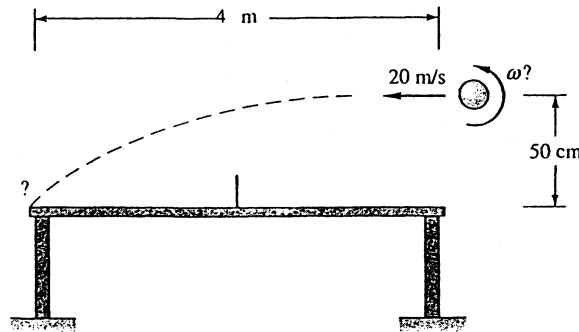

Fig. P7.111
**7.111** A table tennis ball has a mass of 2.6 g and a diameter of 3.81 cm. It is struck horizontally at an initial velocity of 20 m/s while it is 50 cm above the table, as in Fig. P7.111. For sea-level air, what topspin (as shown), in r/min, will cause the ball to strike the opposite edge of the table, 4 m away? Make an analytical estimate, using Fig. P7.108, and account for the fact that the ball decelerates during flight.